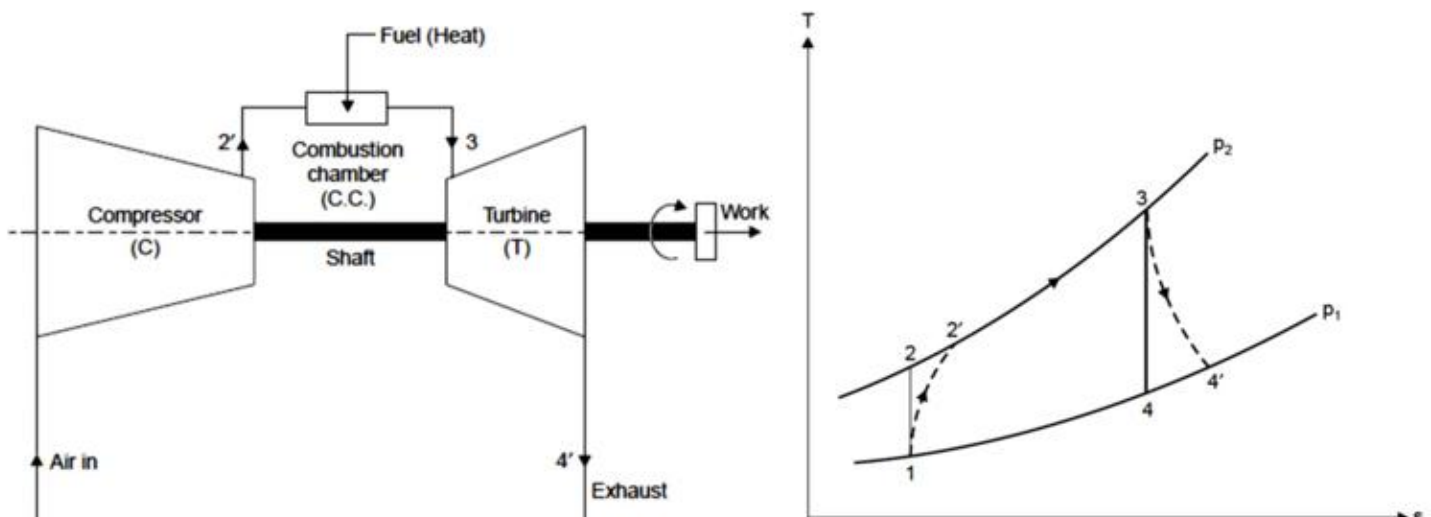

Fig. 7.13 Schematic and T-S diagram of an actual Brayton cycle
- If pressure drop is neglected in combustion chamber, the actual Brayton cycle on T-S diagram is shown by process 1-2'-3-4' in Fig. 7.13.